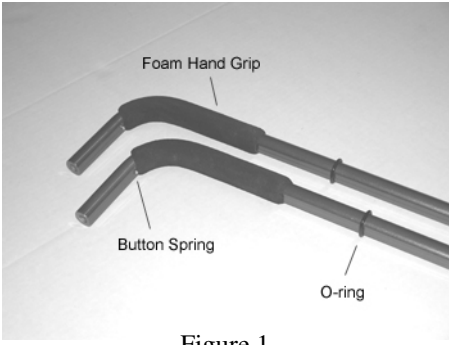

Figure 1
2. Slip **Foam Hand Grip** just beyond button spring (Figure 1) of each **Hand Grip Bar** leaving button spring exposed. *A damp bar makes this easier.*